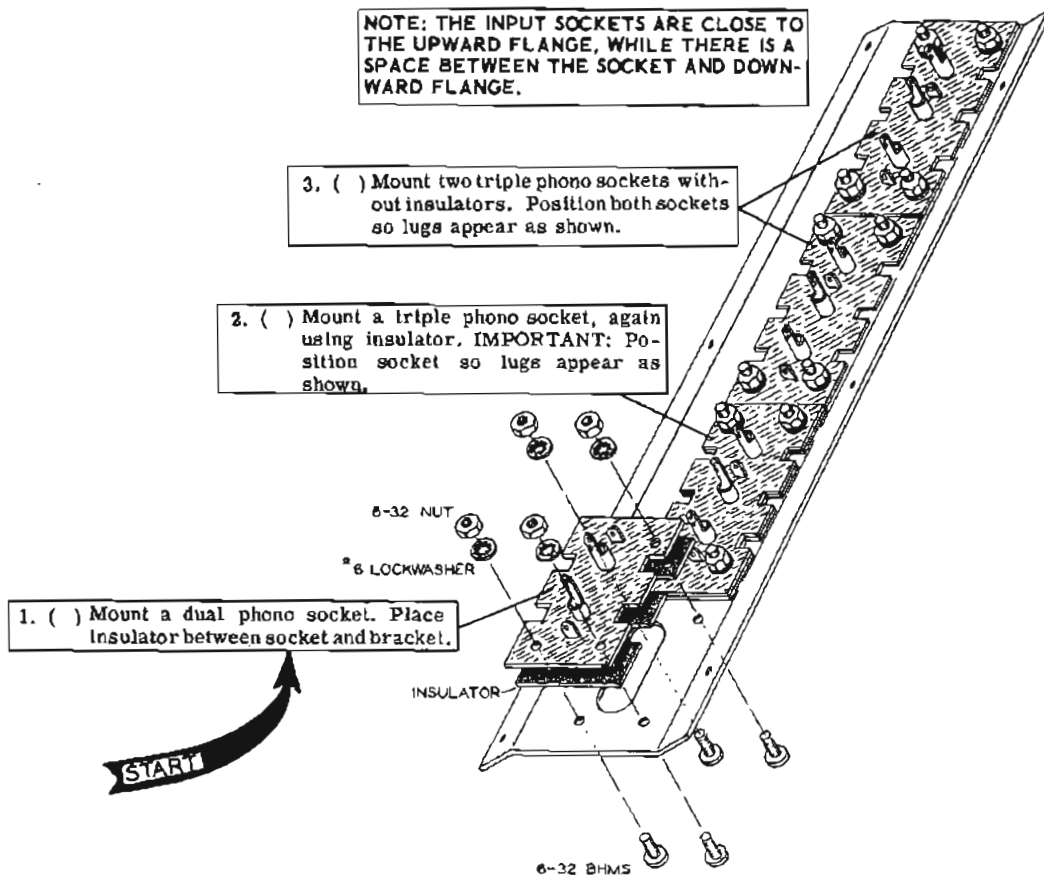

Figure 14
- ( ) Prepare a 3-1/4" wire and insert one end into hole G on the small circuit board. Connect the other end to lug 3 on control R (NS).
- ( ) Now proceed to Figure 14 for preassembly of the input socket bracket.